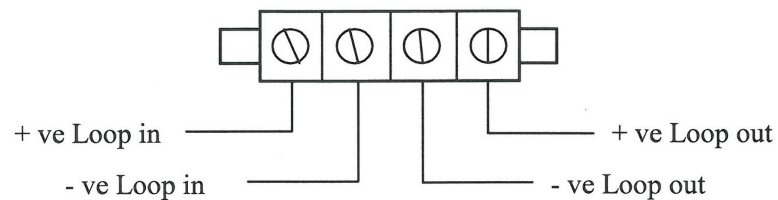

Figure 2
4. Make the Loop connections as shown in figure 2 below and on the product Label. An Earth point is provided in the Back Box moulding if required.